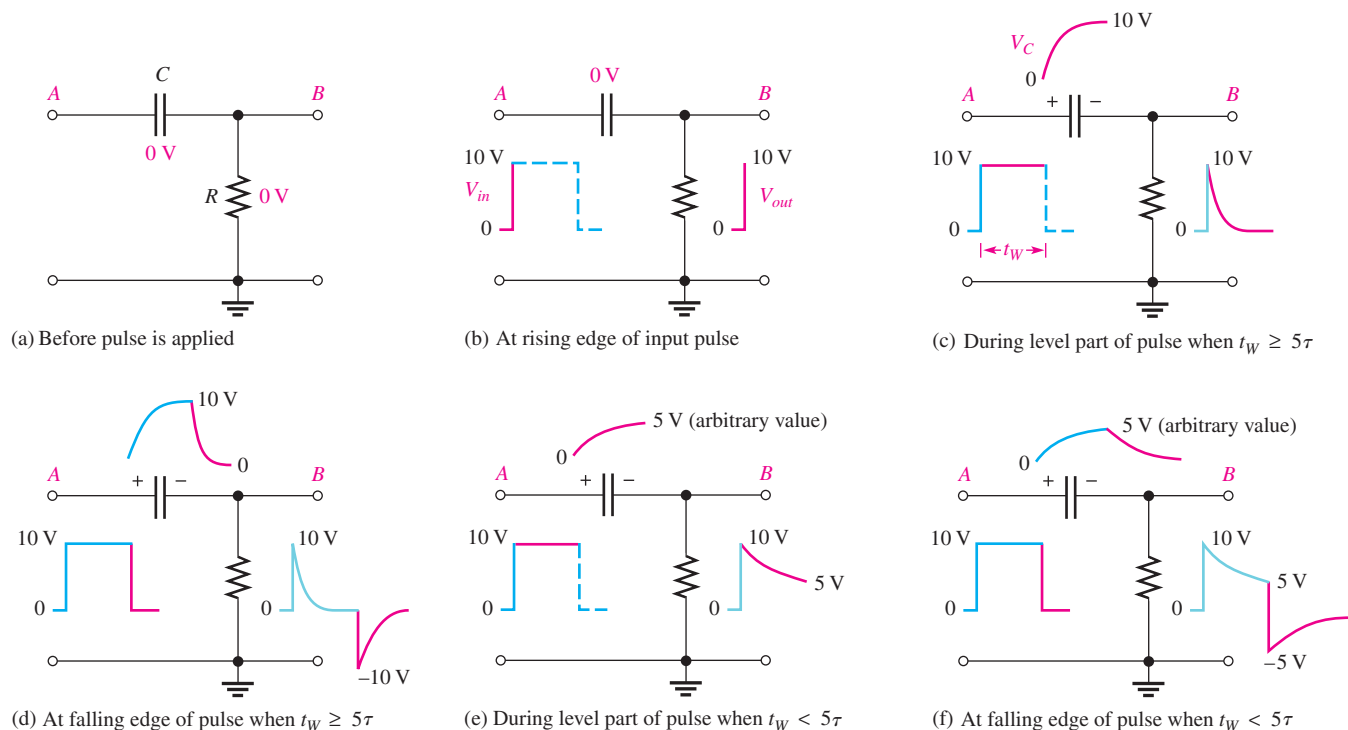

FIGURE 22
Let's assume that the capacitor is initially uncharged prior to the rising pulse edge. Prior to the pulse, the input is zero volts. Thus, there are zero volts across the capacitor and also zero volts across the resistor, as indicated in Figure 22(a).
The voltage at point B with respect to ground is the voltage across the resistor (and the output voltage). Thus, the output voltage suddenly goes to +10 V in response to the rising pulse edge, as indicated in Figure 22(b).
As the voltage across the capacitor builds up exponentially, the voltage across the resistor decreases exponentially until it reaches zero volts at the time the capacitor reaches full charge (+10 V in this case). This decrease in the resistor voltage occurs because the sum of the capacitor voltage and the resistor voltage at any instant must be equal to the source voltage, in compliance with Kirchhoff's voltage law ( $v_C + v_R = v_{in}$ ). This part of the response is illustrated in Figure 22(c).
**Response to Falling Edge When  $t_W \geq 5\tau$**  Let's examine the case in which the capacitor is fully charged at the end of the pulse ( $t_W \geq 5\tau$ ). Refer to Figure 22(d). On the falling edge, the input pulse suddenly goes from +10 V back to zero. An instant before the falling edge, the capacitor is charged to 10 V, so the voltage at point A is +10 V and the voltage at point B is 0 V. The voltage across a capacitor cannot change instantaneously, so when the voltage at point A makes a transition from +10 V to zero on the falling edge, the voltage at point B *must* also make a 10 V transition from zero to -10 V. This keeps the voltage across the capacitor at 10 V for the instant of the falling edge.
The capacitor now begins to discharge exponentially. As a result, the resistor voltage goes from -10 V to zero in an exponential curve, as indicated in Figure 22(d).
Because the capacitor does not reach the full +10 V, the resistor voltage will not reach zero volts by the end of the pulse. For example, if the capacitor charges to +5 V during the pulse interval, the resistor voltage will decrease to +5 V, as illustrated in Figure 22(e).
**Response to Falling Edge When  $t_W < 5\tau$**  Now, let's examine the case in which the capacitor is only partially charged at the end of the pulse ( $t_W < 5\tau$ ). For example, if the capacitor charges to +5 V, the resistor voltage at the instant before the falling edge is also +5 V because the capacitor voltage plus the resistor voltage must add up to +10 V, as illustrated in Figure 22(e).
When the falling edge occurs, the voltage at point A goes from +10 V to zero. As a result, the voltage at point B goes from +5 V to -5 V, as illustrated in Figure 22(f). This decrease occurs, of course, because the capacitor voltage cannot change at the instant of the falling edge. Immediately after the falling edge, the capacitor begins to discharge to zero. As a result, the resistor voltage goes from -5 V to zero, as shown.